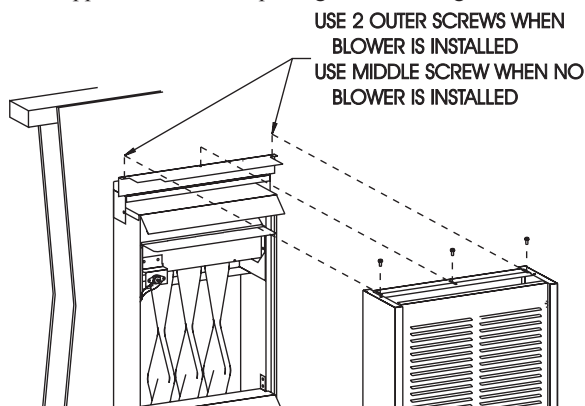
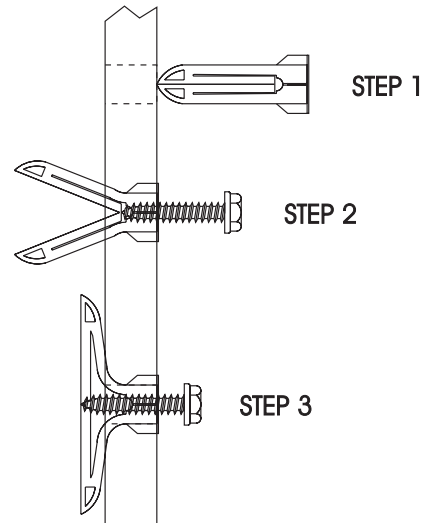

Figure 1
Figure 2
3. After locating mounting holes, drill (2) 5/16" diameter holes into wall. Insert the (2) plastic expansion anchors into holes. Insert (2) #10 x 1 1/2" screws provided in blower kit into (2) plastic expansion anchors. Do not completely tighten screwhead to plastic expansion anchors, leave a 7/16" gap between screwheads and plastic expansion anchors. Refer to Figure 2.
4. At the top of outer casing remove (1) screw from center clearance hole that attaches outer casing to header assembly. Also, remove (2) screws that attach bottom of outer casing to inner casing.
6. Remove (4) 8 x 3/8" screws that attach blower front to blower housing.
9. Attach outer casing to header assembly. **Attention:** The center clearance hole will not be used. The two outside clearance holes will be used to attach outer casing to header assembly, (1) screw from Step 4 and (1) screw supplied in hardware package. Refer to Figure 1.
7. After locating mounting holes, drill (2) 5/16" diameter holes into wall. Insert (2) plastic expansion anchors into holes. Insert (2) #10 x 1 1/2" screws provided in blower kit into (2) plastic expansion anchors. Do not completely tighten screwhead to plastic expansion anchors, leave a 7/16" gap between screwheads and plastic expansion anchors. Refer to Figure 2.